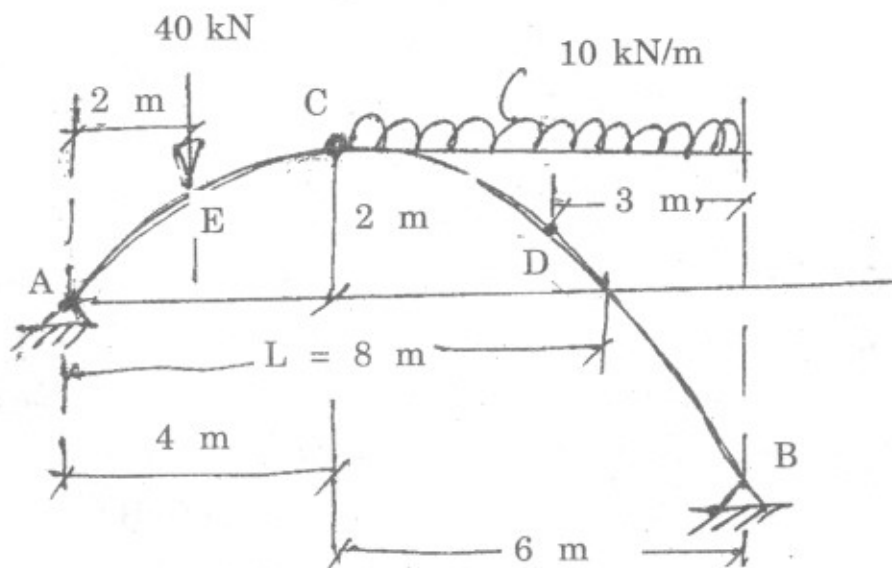

Fig. 16
12. (A) A three hinged parabolic arch with hinges at springings A and B and at crown C is loaded as shown in Fig. 16. The load of 40 kN acts at the centre of AC. Calculate the reactions at A and B and Bending moment at point D which is the midpoint of CB. [8]